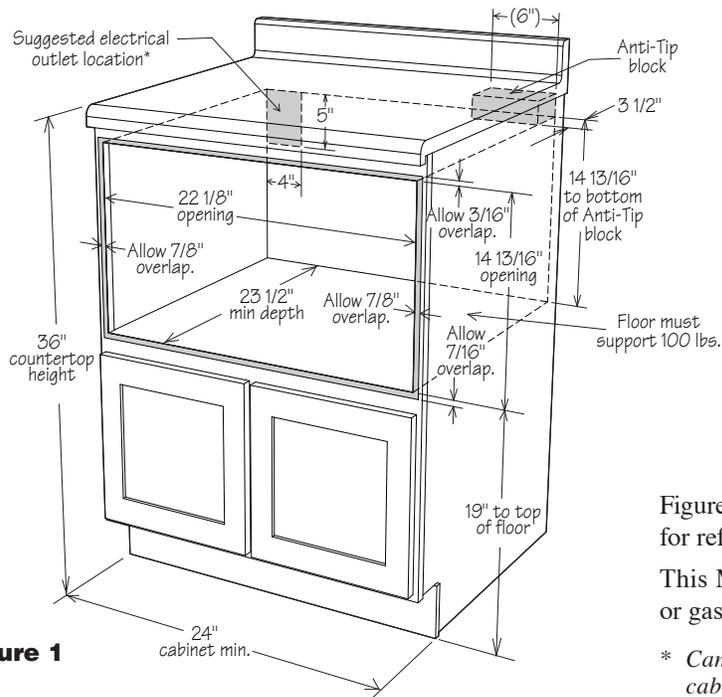
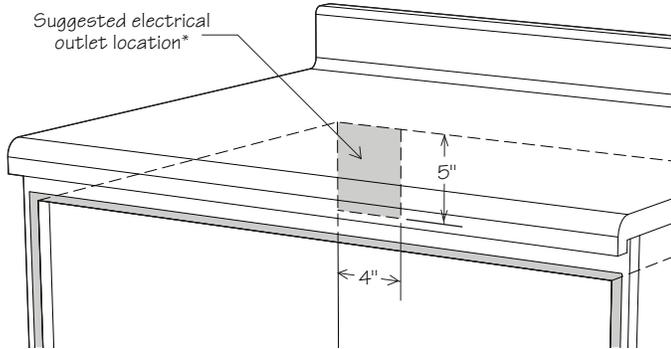

Figure 1
Figure 7
For **SAFETY CONSIDERATIONS** do not install drawer in any combustible cabinetry, which is not in accord with the stated clearances and dimensions on pages 2 and 3. See Figure 1 (for 24") or Figures 3 and 4 (for 30") .
- Dimensions that are shown in Figure 1 (for 24") or Figures 3 and 4 (for 30") must be used. Given dimensions provide minimum clearance. Locate electrical outlet in the shaded area in the upper left-hand corner of the cutout. See Figure 7.
Figures 1 and 2 contain many Microwave Drawer measurements for reference when planning the drawer's location.
To reduce the risk of tipping of the drawer, the Anti-Tip block must be properly installed located 14 13/16-inches above the floor on which the Microwave Drawer will sit. The 6-inch Anti-Tip block must be provided by the installer. See Figures 1 and 6 (for 24") or Figures 3, 4 and 6 (for 30"). The Anti-Tip block prevents serious injury that might result from spilled hot liquids.